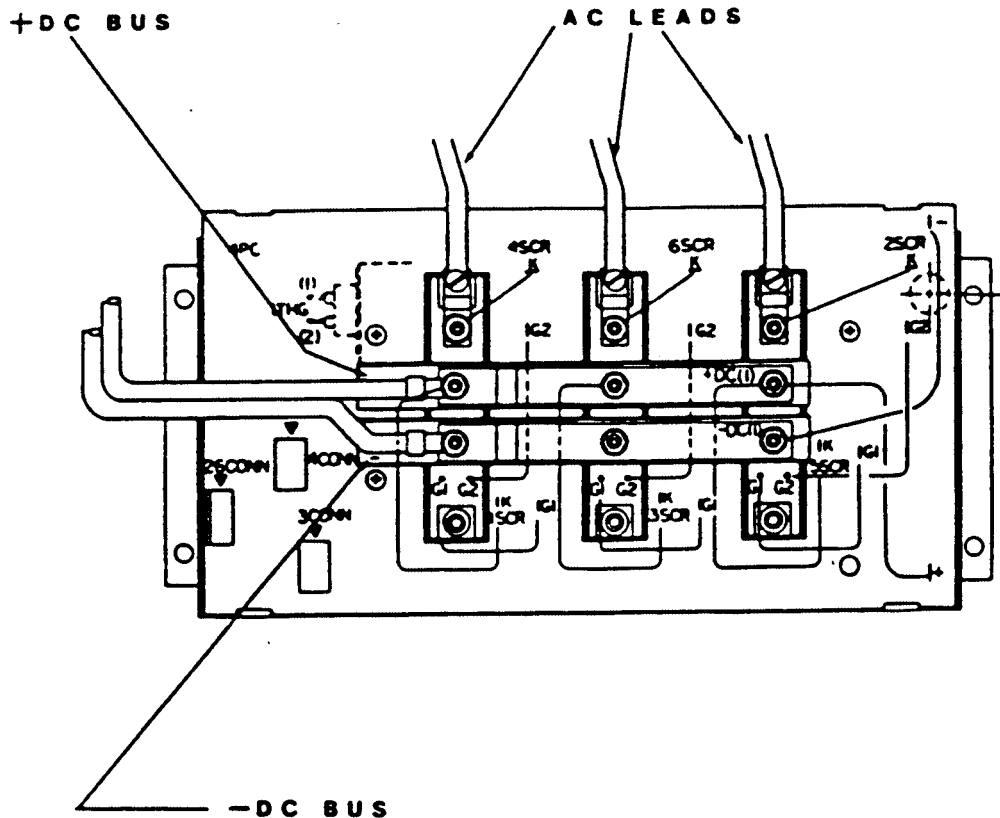

Figure 4.1. Modular Type 6SCR Bridge
In order to test or replace modular SCRs, the bridge must first be disassembled as follows (see Figure 4.1).
1. Using an ohmmeter in the x10K range, place the positive probe on SCR1 anode (A1), and the negative probe on SCR1 cathode (K1), shown in Figure 4.1. Compare your reading with Section 1 of Table 4.1. After checking SCR1, check SCR2 by placing the positive probe on SCR2 anode (A2) and the negative probe on SCR2 cathode (K2), shown in Figure 4.2. Compare your reading with Section 1 of Table 4.1.
D. Reassembly of SCR Bridge. After testing or replacement of SCRs, reassemble the bridge as follows (see Figure 4.1.).